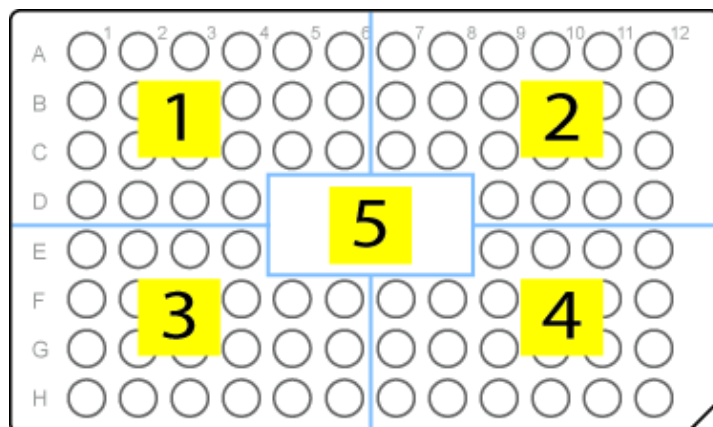

Figure 7 Vortexing plates
- For deep well plates (such as ABgene 2.2 mL square well storage plates), vortex at maximum speed for 5 seconds in each sector for a total of 5 sectors (Figure 7).
- For PCR plates vortex 2 seconds in each sector for a total of 5 sectors (Figure 7).